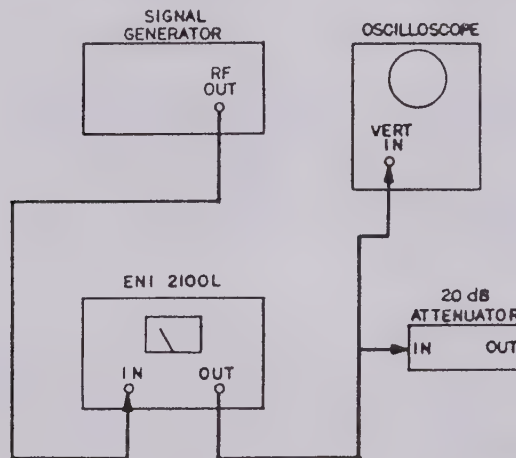

Figure 4-2.
3. Reconnect the equipment as shown in Figure 4-2, then proceed as follows: